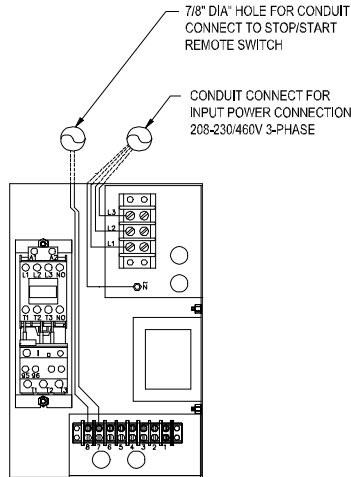

FIGURE 3
2. Make connections from power supply to terminals L1, L2, and L3. Wire size should be suitable for 7½ HP motor load. Make connections from remote start/stop switch to terminals 7 and 8 (**Figure 3**).